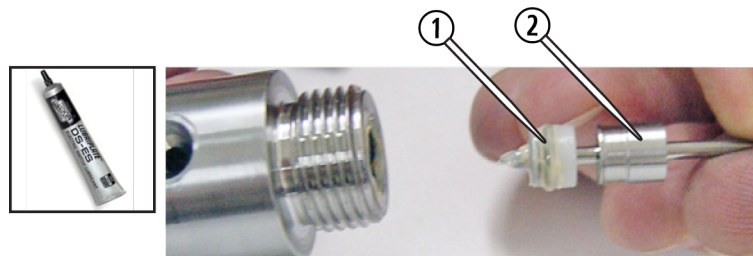

Figure 11
- Slide the **seal assembly** onto the **stem assembly shaft** with the **O-ring** facing towards the **valve body** (Figure 11). Ensure that the **seal assembly** slips over the pointed end of the **stem assembly**.
- Install the **seal assembly** ① onto the **stem assembly** ② with the **O-ring** side facing away from the **stem assembly center** (see below). Coat both the **seal assembly O-ring** and the **stem assembly** with Lubriplate grease: